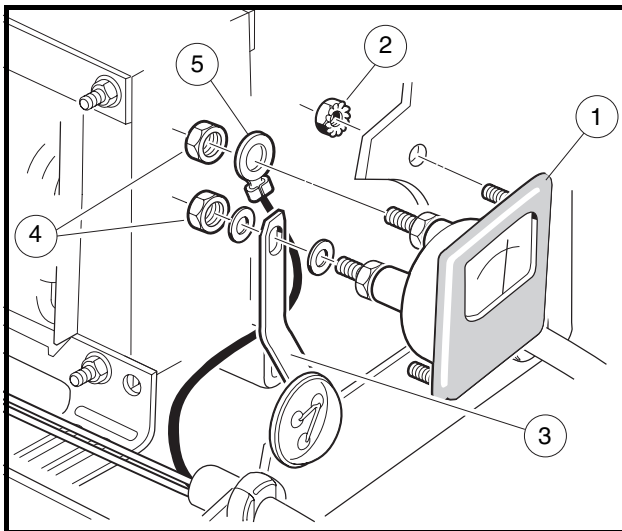

Figure 3-29 Ammeter
3. Using two wrenches to prevent the posts from turning, disconnect the DC cord black wire (5) and buss bar (3) from the ammeter (**Figure 3-29, Page 3-33**).
4. Remove the two nuts (2) that secure the ammeter to the charger face.
1. Place the ammeter in position in the charger face (**Figure 3-29, Page 3-33**).
2. Install the nuts (2) and tighten until ammeter is firmly secured.
3. Connect the DC cord black wire (5) to the left (as viewed from inside the charger) post of the ammeter.
4. Connect the buss bar (3) from the fuse link to the right post of the ammeter. Place flat washers on both sides of the buss bar.
5. Thread nuts (4) onto both posts of the ammeter until just past finger tight. While holding the inside nut, tighten the outside nut 1/4 turn. **See following CAUTION.**
3. Remove both black secondary coil transformer wires and the buss bar (3) from the back of the fuse link assembly (**Figure 3-29, Page 3-33**).
2. Install the buss bar (3) over the center branch of the fuse assembly and ammeter post (**Figure 3-29, Page 3-33**). Tighten to 22 in-lb (2.5 N·m).